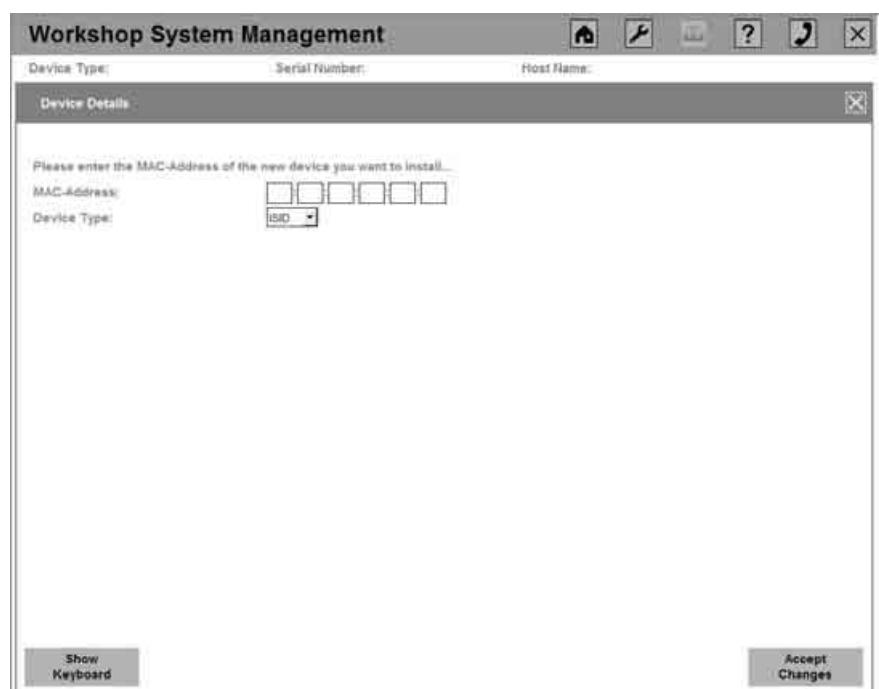

Fig. 50: Setting up a new ISID in the WSM
- In the dialog box that follows (see Fig. 50), enter the MAC address of the device (which you noted down before) and select the device type "ISID".